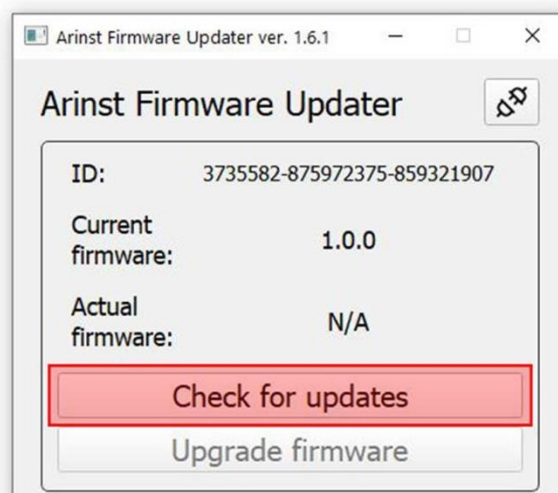

Figure A2.5 – The loader is connected to the device
2.7. After connecting to the device, its ID and firmware version will be determined. In addition, the **Check for updates** button will be active (Figure A2.5).